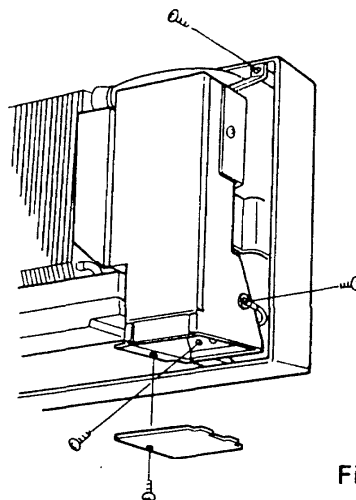

Fig. 2
- b) Remove four screws. Fig. 2